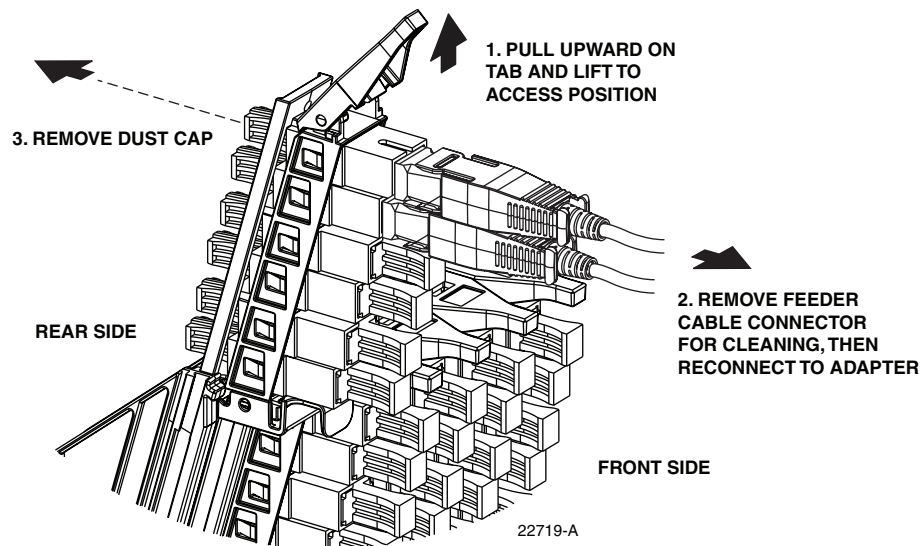

Figure 13. Adapter Pack Raised to Access Position
2. Pull upward on the small tab on top of the adapter pack and lift the adapter pack to the access position as shown in Figure 13
2. Pull upward on the small tab on top of the adapter pack and lift the adapter pack to the access position as shown in Figure 13.